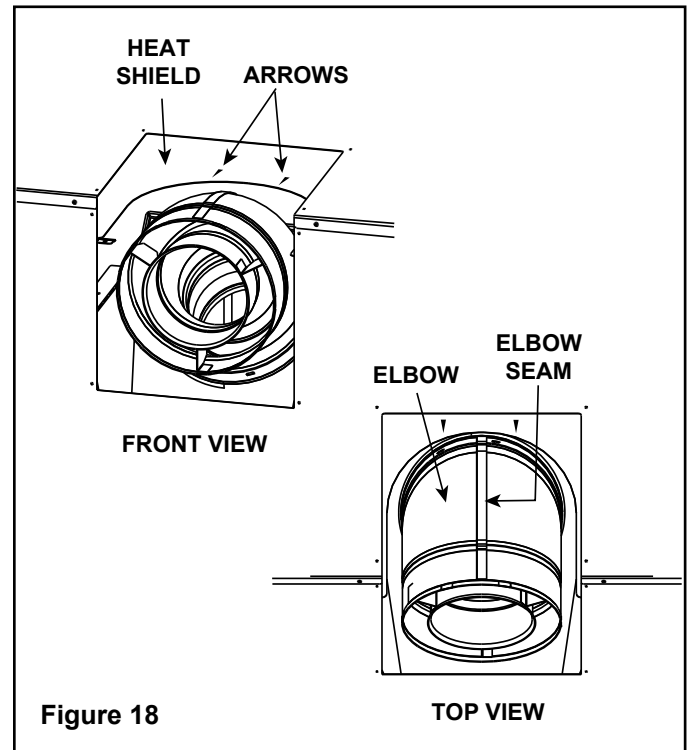

Figure 18
- The elbow can be removed from the unit by aligning the seams of the elbow to the arrows on the surrounding heat shield (see Figure 18).